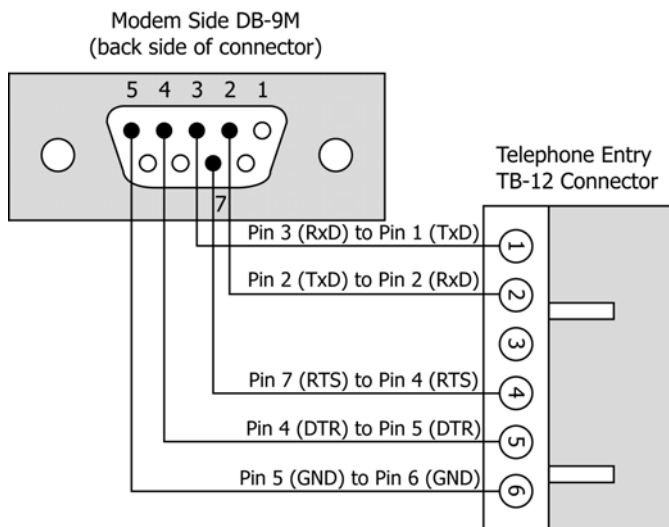

Figure 19: Modem/DB-9M to Telephone Entry/TB-12 Serial Port Connection
- If the modem has a female DB-9 connector, you must create a cable as shown in Figure 19.